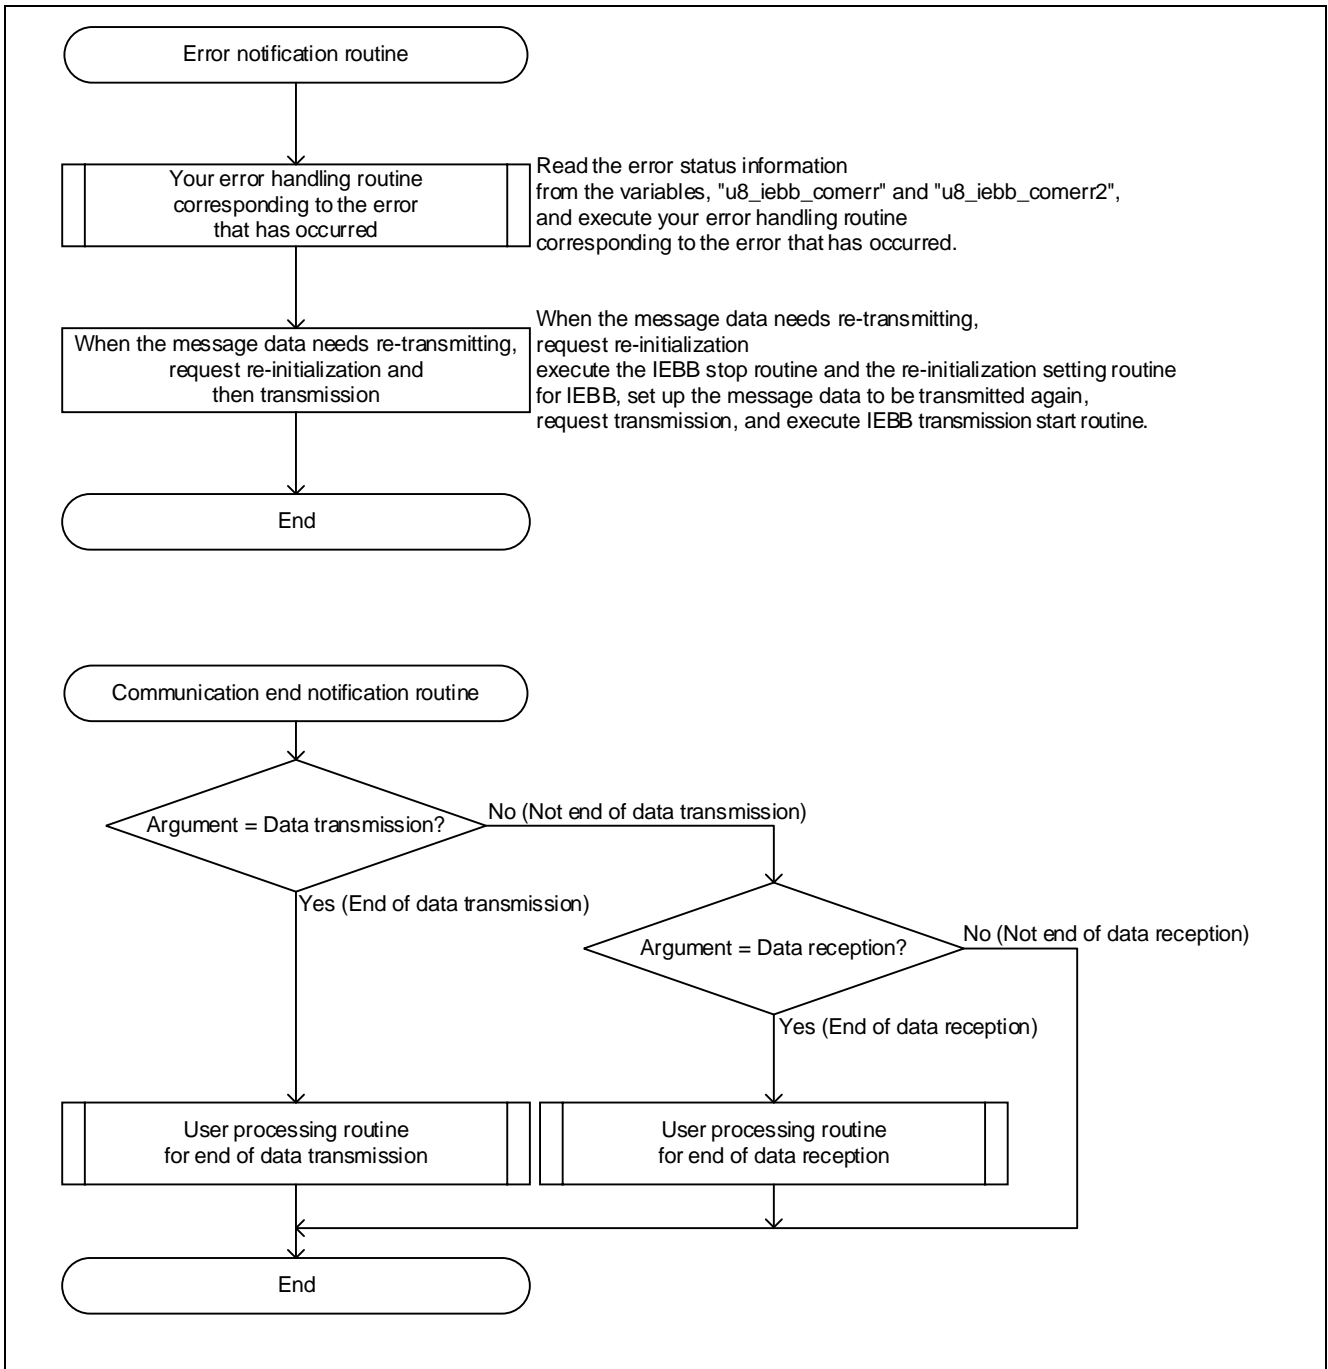

Figure 2-18 Notification Routines
2. See Figure 2-18.
The flows of the notification routines are shown in Figure 2-18. However, customers are required to modify each notification function for their system.